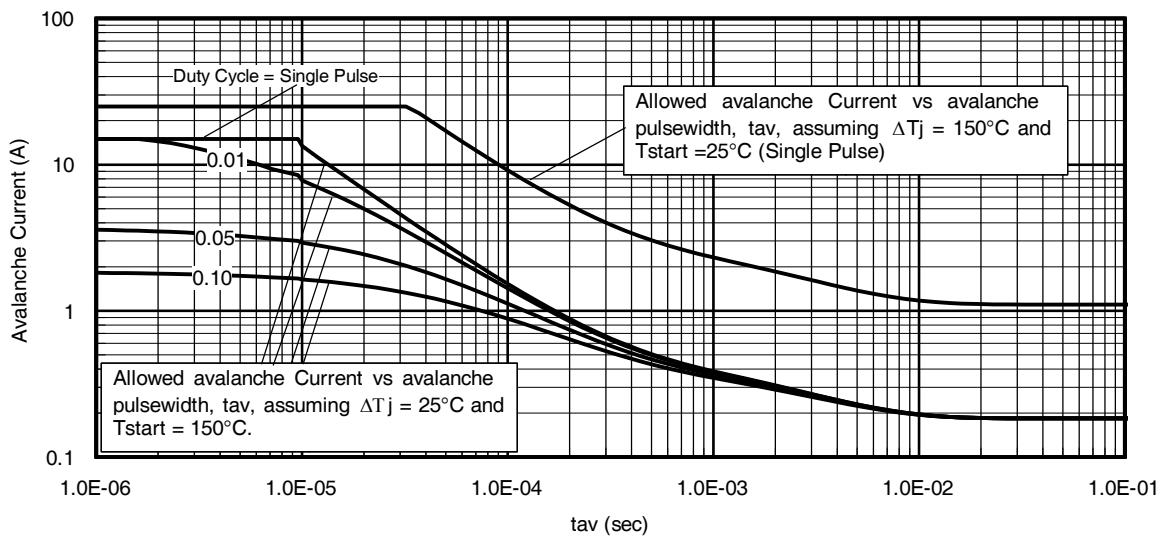

Fig 14. Typical Avalanche Current Vs. Pulse width
| I_{AR} | Avalanche Current ① | See Fig. 14, 15, 22a, 22b | A |
Notes on Repetitive Avalanche Curves , Figures 14, 15: (For further info, see AN-1005 at www.infineon.com)